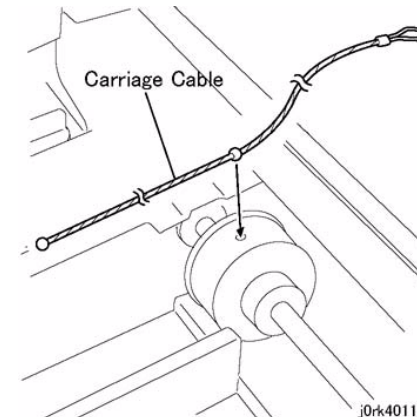

Figure 6 Carriage Cable
1. Insert the ball of the Carriage Cable into the groove of the pulley. (Figure 6)